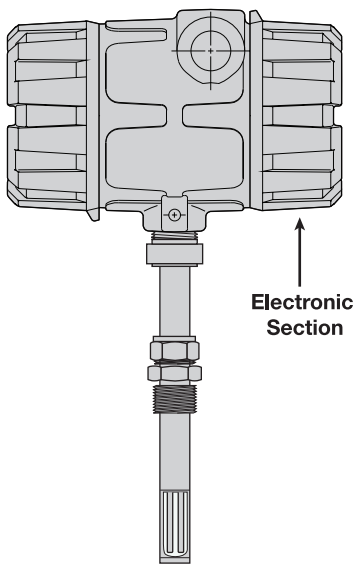

Figure 8
2. Remove the cover on the electronics section. Refer to Figure 8.